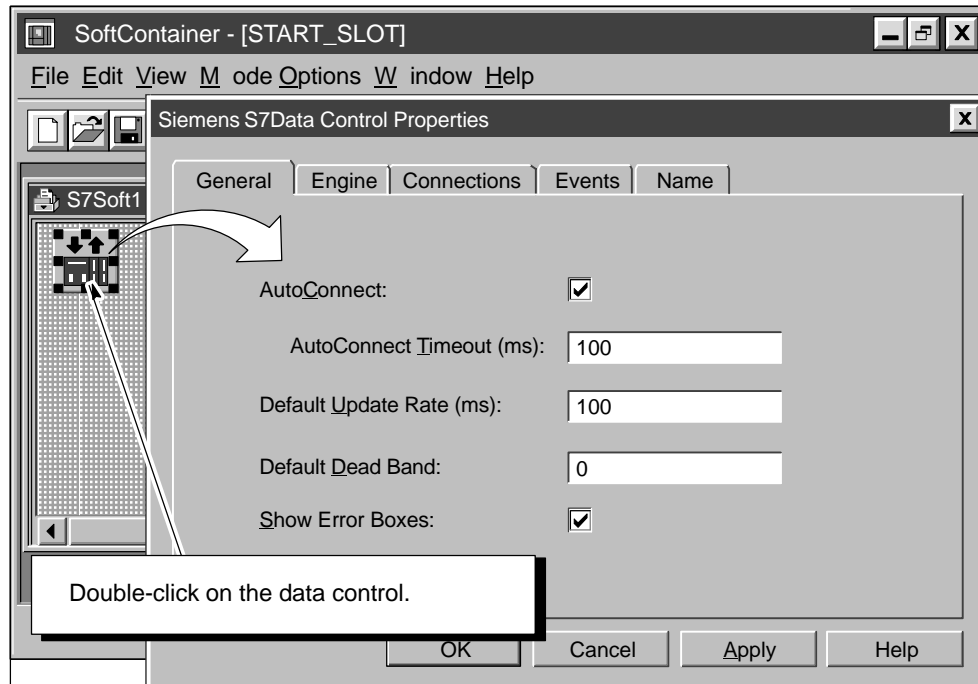

Figure 2-20 Opening the "Properties" Dialog Box for the Data Control
2. As Figure 2-20 shows, double-click on the data control (or right click and choose from the popup menu the command **S7Data1 Properties**) in order to display the "Properties" dialog box of the data control.